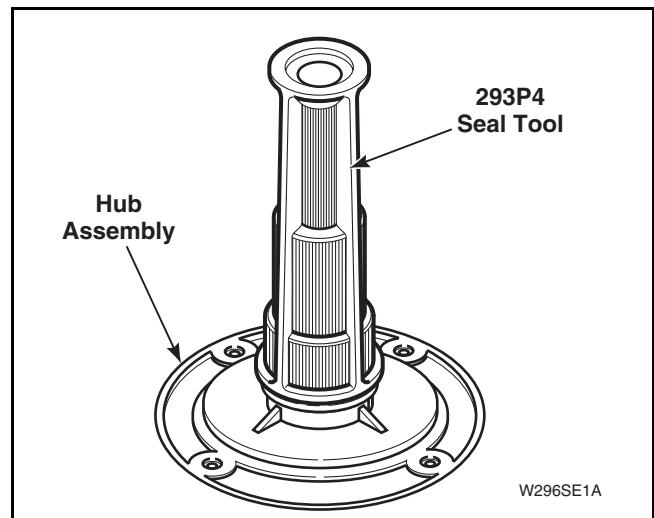

Figure 18
- o. Place new drive bell seal onto hub and carefully push into position using large end of No. 293P4 Seal Tool. Refer to *Figure 18*.